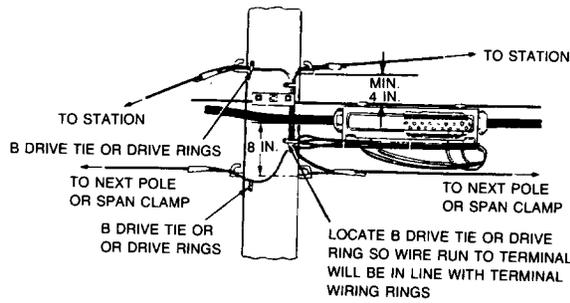

Fig. 6 - Running Drop Wires to 61-Type Terminal
3.09 Refer to Fig. 6 for a typical arrangement of drop wires at a 61-type terminal.